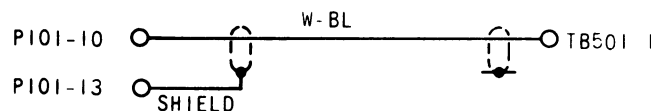

Figure 5 - Power Supply Tone Cable Connections
2. A two-conductor shielded cable (7134854-P5) is connected between P101 and TB501 as shown in Figure 5 to couple tone through the Power Supply to the Transmitter input.